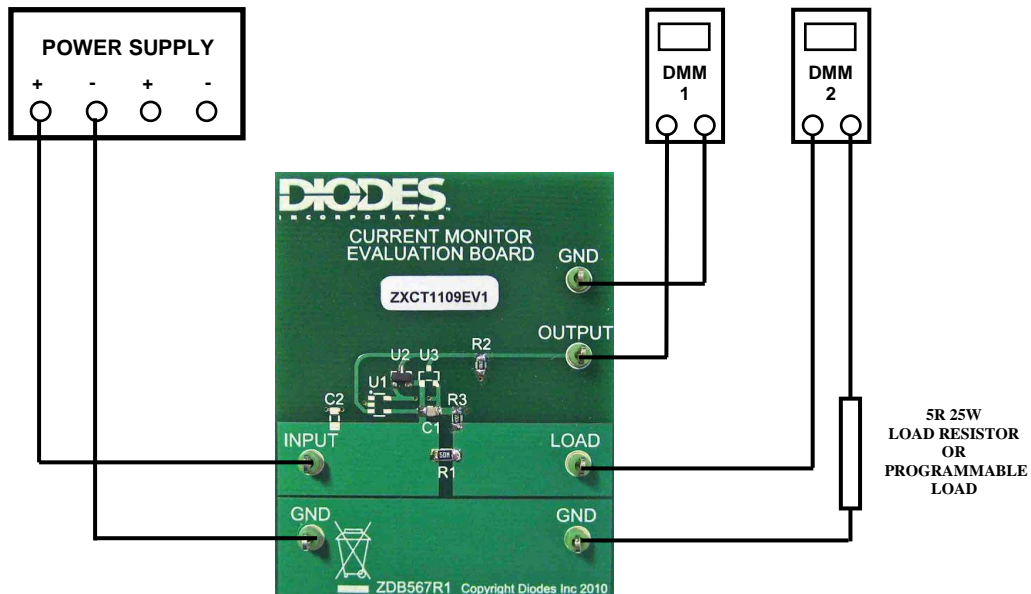

Fig. 3 – ZXCT1109EV1 Demonstration Setup
As can be seen from the test setup in Figure 3, the ZXCT1109EV1 is designed to connect a power supply between test points TP1 and TP3, a load and DMM between test points TP4 and TP5, and a DMM to measure the output voltage between test points TP6 and TP7.
2. Connect up the ZXCT1109EV1 board to the equipment as in **Figure 3** below. Set DMM1 to measure DC voltage. Set DMM2 to measure DC current.